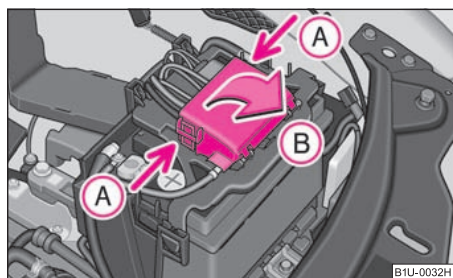

Fig. 176 Battery cover in the engine compartment
- Press together the interlocks of the fuse cover simultaneously in direction of arrow **A** ⇒ fig. 176 and fold down the cover in direction of arrow **B**.